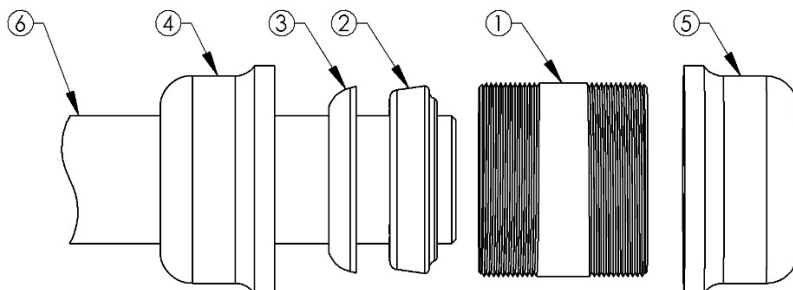

FIGURE 1.2 QUIK-JOINT FULL COUPLING W/ NPT END CAP (EXPLODED VIEW)
- 2) INSTALL END NUT, RETAINER RING AND GASKET ON USER PIPE, AS SHOWN IN FIGURE 1.2
- 3) INSTALL END NUT, RETAINER RING AND GASKET ON BOTH USER PIPE, AS SHOWN IN FIGURE 1.2